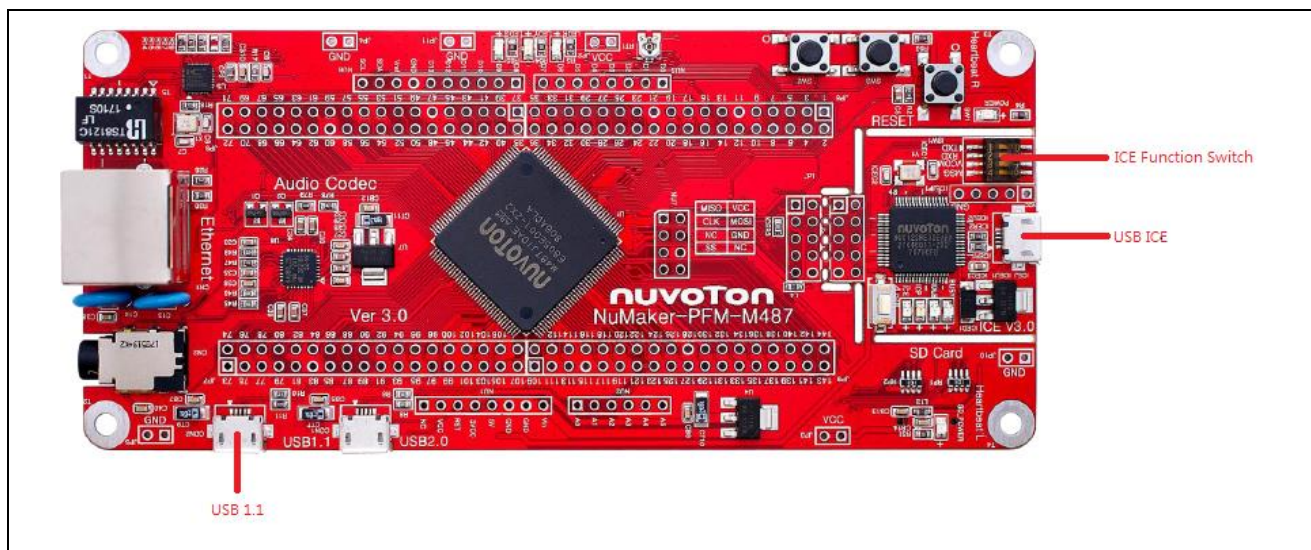

Figure 3-1 NuMaker-PFM-M487 Board
2. Connect USB ICE and USB1.1 to PC (Figure 3-1).